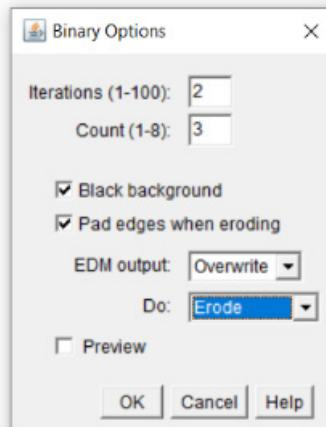

Figure 8.2. An example of how the pruning method “2x Erosion” translates in ImageJ.
STEP 5. Set the pruning methods to be tested. Pruning is a way to modify the raw axis outlines and get rid of unwanted axis decorations (for accurate axis length measurement). Briefly, the raw axis ROI is used to create a binary mask that is then further processed using binary tools. The mask is creating using fill/clear tools (this can be reproduced manually by using the ROI, then the Edit>Fill and Edit >Clear Outside menus). The process>binary>options tool is used (figure 8.2), with the pad edges when eroding option & black background option selected. The pruning strength value (“count” in the options tool is the number of adjacent background pixels necessary before a pixel is removed from the edge of an object during erosion and the number of adjacent foreground pixels necessary before a pixel is added to the edge of an object during dilation. Pruning is quite mandatory when using superresolution images. Two types of methods can be tried :